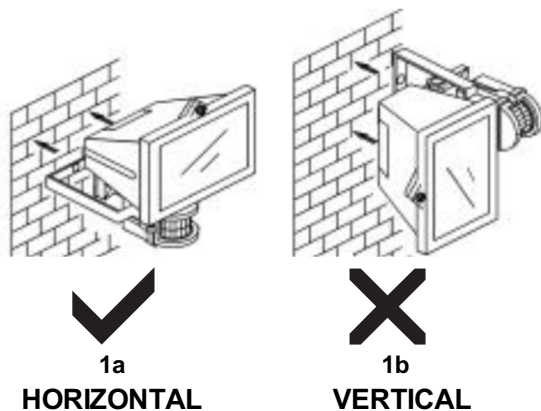

Figure 1a & 1b
- The unit must be installed in the horizontal position (**Figure 1a**), not vertically (**Figure 1b**).